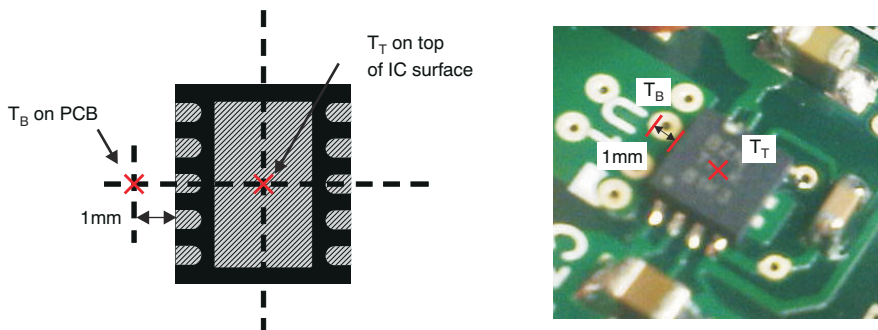

Figure 8-9. Measuring Points for T_T and T_B
- T_B is the PCB temperature measured 1mm away from the device package *on the PCB surface* (as Figure 8-9 shows)